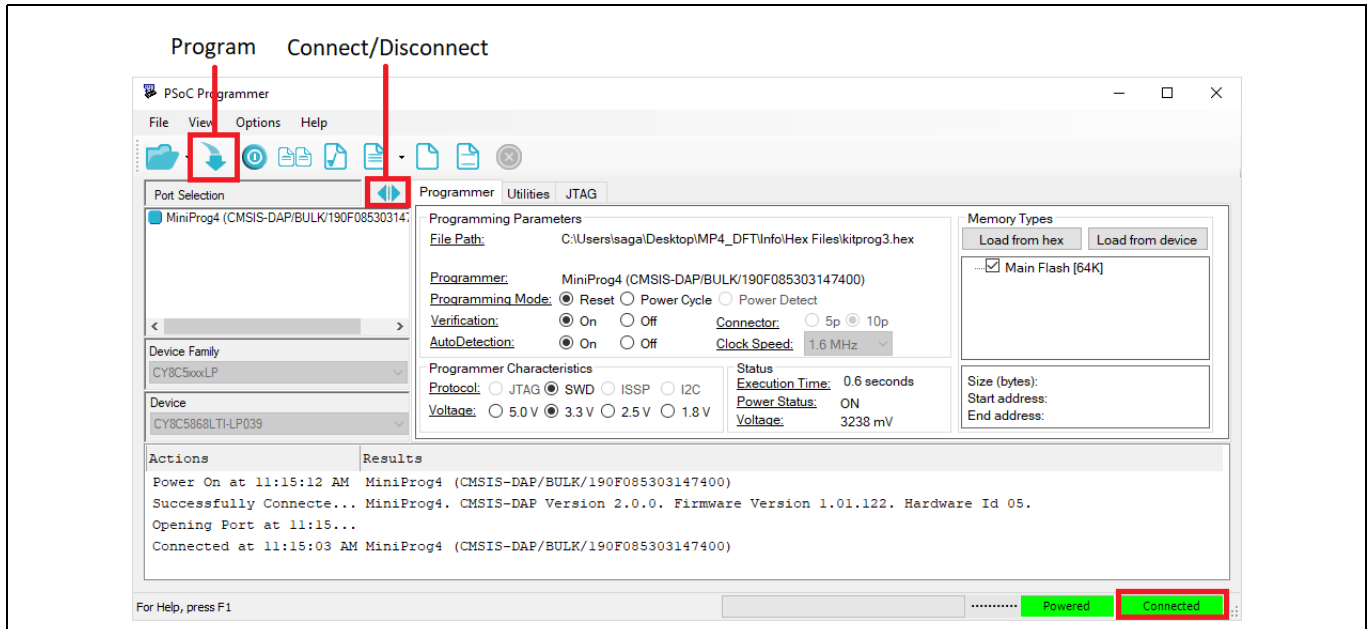

Figure 4 PSoC™ Programmer: MiniProg4 Connect/Disconnect and Program
3. In PSoC™ Programmer, to connect to the port, in the Port Selection pane, click the MiniProg4 device. Click on **Connect/Disconnect** button as shown in **Figure 4**.